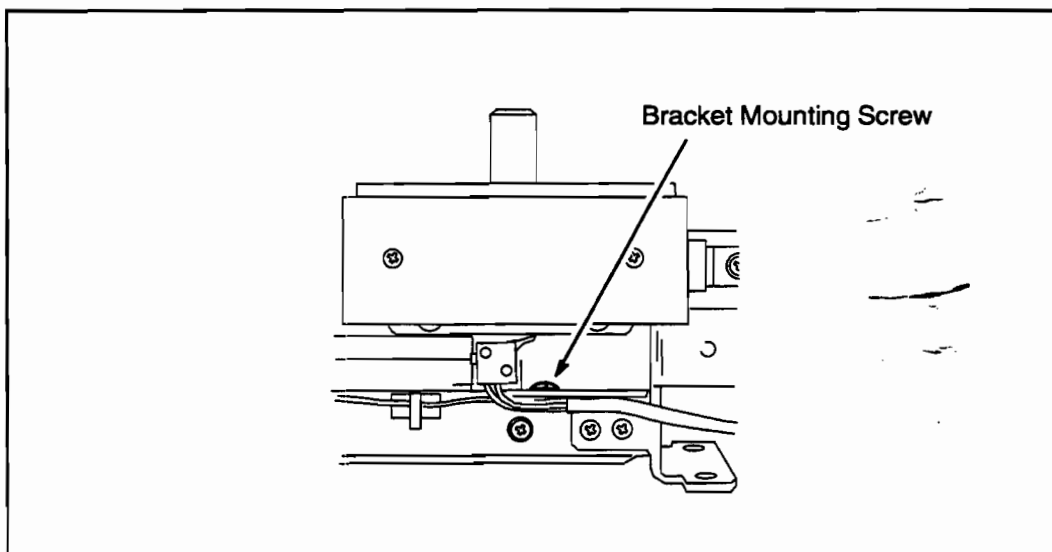

Figure 6-93. Right-Hand Sensor Switch
1. Switch the plotter OFF (O) and disconnect the ac power cord and interface cable.
5. Remove the bracket mounting screw securing each switch to the cutter. Figure 6-93 illustrates the right end. The left end is identical.